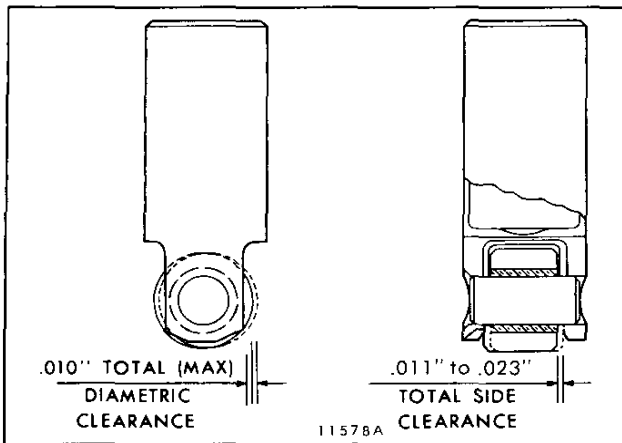

Fig. 4 - Cam Roller Clearances
Examine the cam follower rollers for scoring, pitting or flat spots. The rollers must turn freely on their pins. Measure the total diametric clearance and side clearance. Install a new roller and pin if the clearances exceed those specified in Fig. 4. Cam followers stamped with the letter "S" on the pin, roller and follower body are equipped with an oversized pin and roller. The same clearances apply to either a standard or oversize cam follower assembly.
5. Remove the cam follower from the fixture and check the side clearance (Fig. 4). The clearance must be .011" to .023".